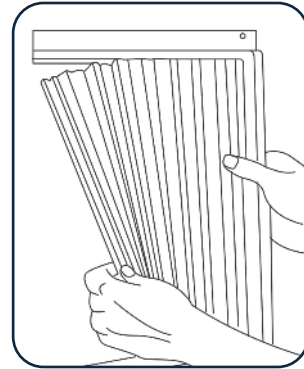

Fig.2
- Gently pull the free end of the accordion panel **(See Fig.2).**